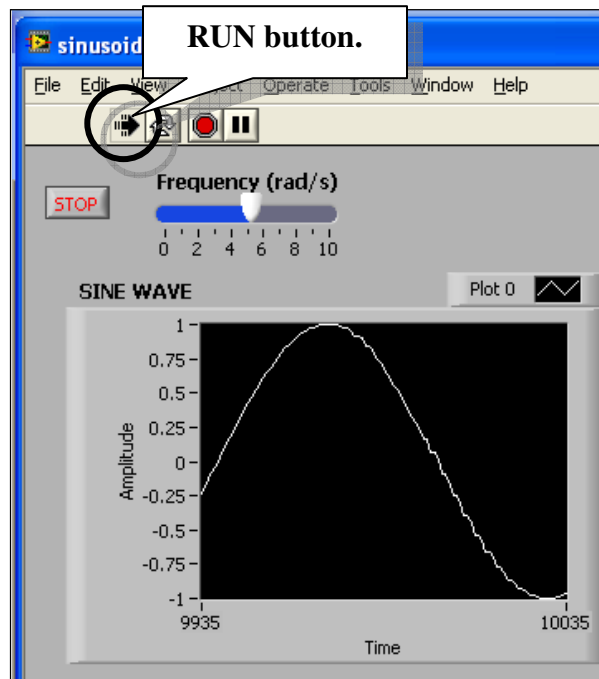

Figure 20. Running the VI project.
[Click] the “Run” button to run the VI (see Figure 20). Move the “Frequency” slider and observe what happens to the plot. You can **[Click]** the **[STOP]** button to terminate the run.
- ii) The horizontal axis are in terms of “While loop” iterations. This means in our example, with the “Wait...” time of 10 milliseconds, the value of 9935 in Figure 20 means 99.35 seconds of elapsed time. Moreover, the range of samples shown in the chart is $(10035-9935)=100$ or 1 second.